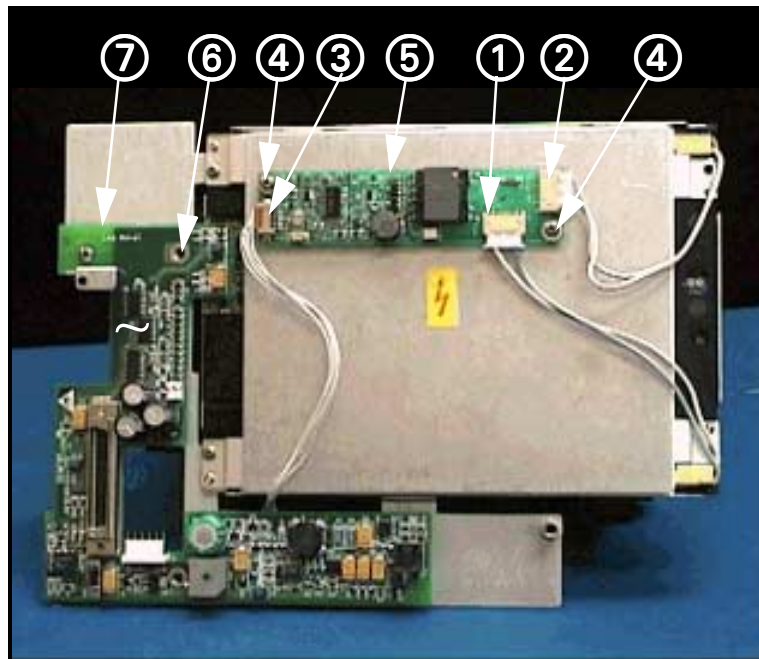
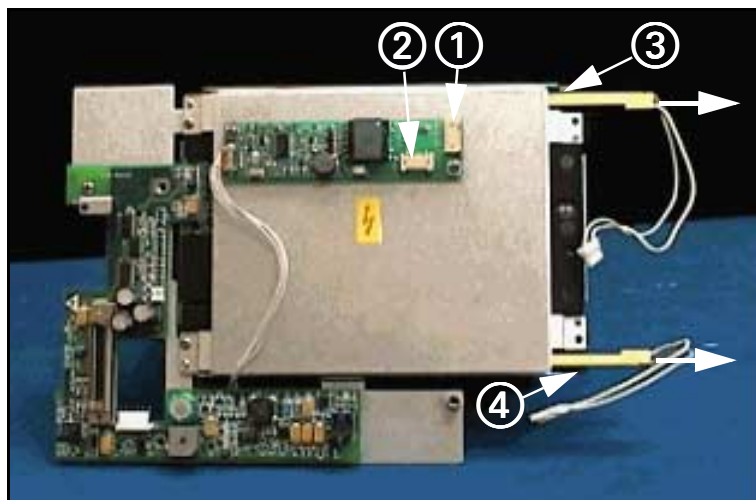

Figure 3-8 TFT-LCD Display Subassembly (Back View)
Figure 3-9 Backlight Retaining Tabs Location
2. With back of TFT-LCD display facing up as shown in Figure 3-8, unplug front panel board cable from connector from X3 (③).
3. Remove securing screw (⑥ in Figure 3-8) and lift Front Panel PC board (⑦ in Figure 3-8) off of TFT-LCD Display Subassembly.
2. With back of TFT-LCD display facing up as shown in Figure 3-8, unplug backlight cable connectors from X1 and X2 (① and ② in Figure 3-8), and front panel board cable from connector from X3 (③ in Figure 3-8)).
3. Remove two screws (④ in Figure 3-8), and lift Inverter PC Board (⑤ in Figure 3-8) off of TFT-LCD Display Subassembly.
1. After removing TFT-LCD Display Subassembly from monitor (refer to Section 5.5), and with back of TFT-LCD display facing up as shown in Figure 3-8, unplug cable connectors from X1 and X2 (① and ② in Figure 3-8 and Figure 3-9).
2. Depress each black plastic retaining tab, ③ and ④ in Figure 3-9, and extract corresponding backlight from TFT-LCD display guide slot in direction indicated by heavy arrows in Figure.
4. Plug backlight cables into X1 and X2 (① and ② in Figure 3-8 and Figure 3-9).